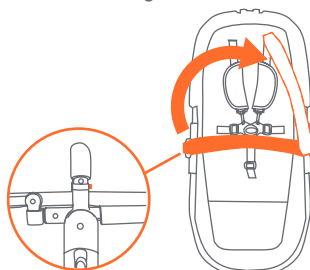

Fig. 4b
- To detach bumper bar, press the release button on the bottom of the bar and pull bar out of the anchor. Swing the bar upwards to access the seat (Fig. 4b).